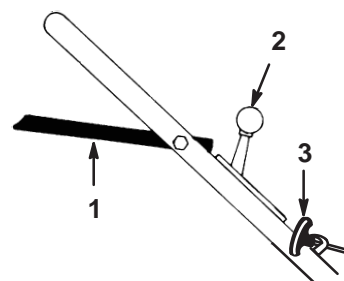

Figure 11
The blade control bail, throttle control, and starter handle are on the upper handle as shown in Figure 11.
3. Move the throttle control to the  (**Choke**) position (Fig. 11).